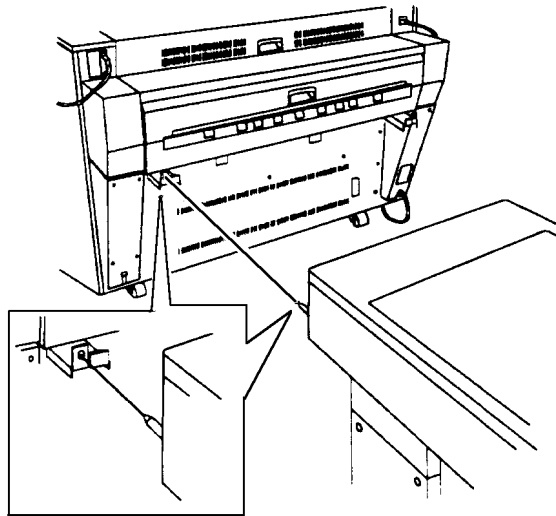

Figure 5. Docking the Stacker
10. (Figure 5): Move the Stacker into position behind the 721P/8855. Ensure that the locating pins on the Stacker are centered in the Stop Bracket holes.